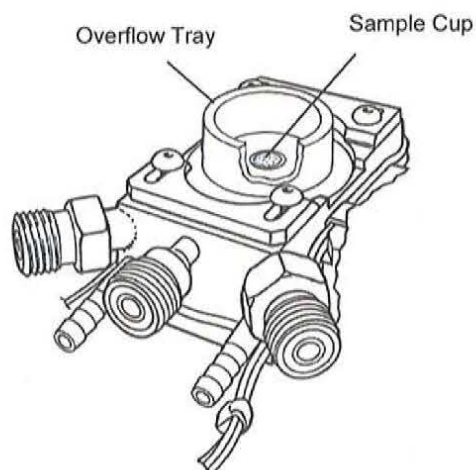

Figure 14 • Filling the Cup
- Place a sample screen into the sample cup and locate the plastic overflow tray over the sample cup (Figure 14).